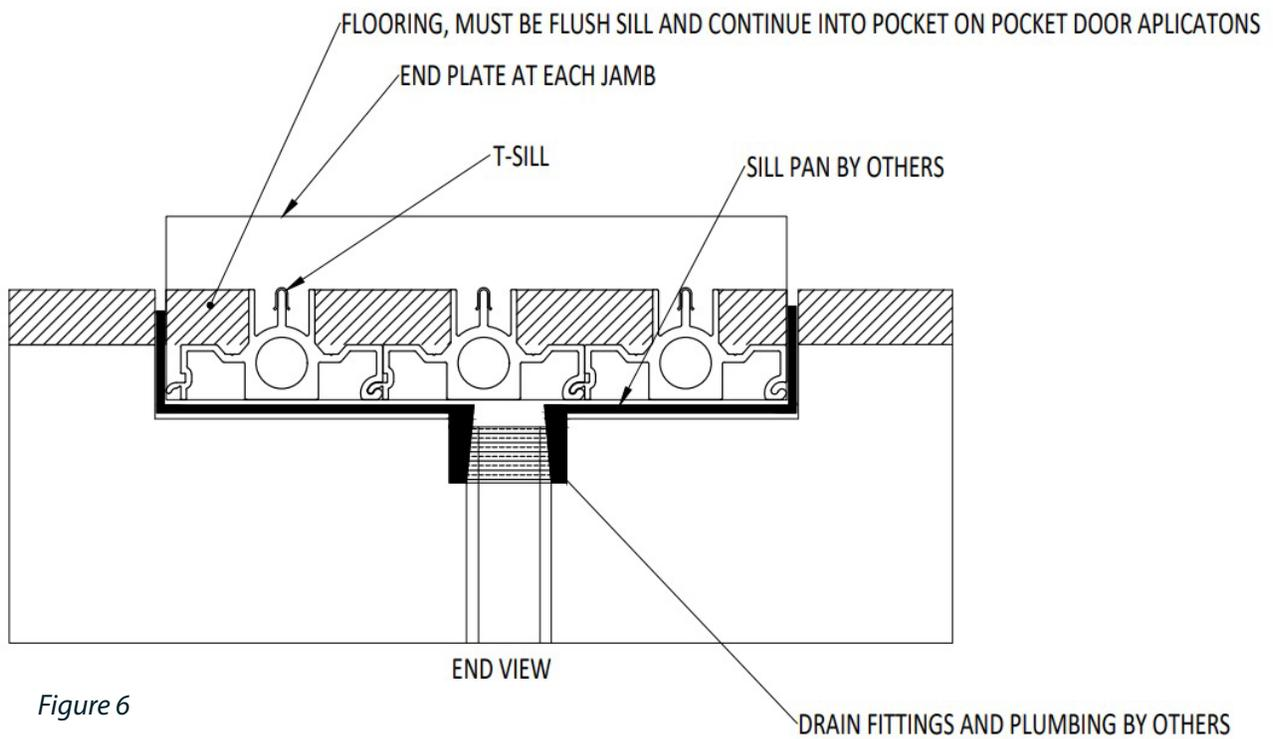
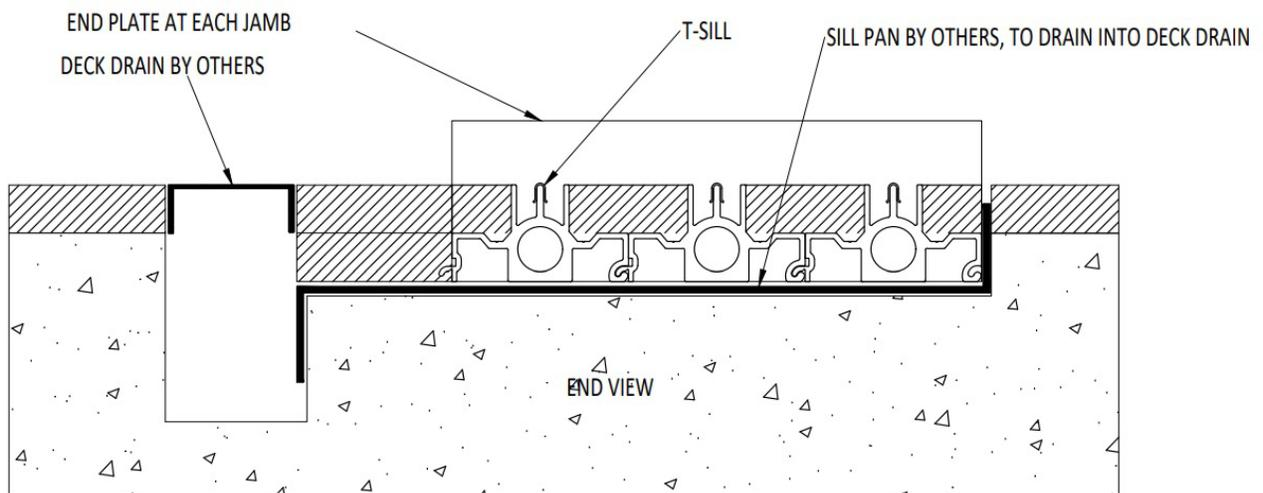

Figure 6
Figure 7
- Front Weep with pan and drain by others (See Figure 6).
- Front weep with deck drain and pan by others (See Figure 7).
- 8. Front Weep Sills** - Sills that have a weep slot located on the bottom surface 6" from each end and 6" from each stagger location will allow water to drain out the bottom of the sill directly into a water management system supplied by others, such as a sill pan or equivalent. (See Figure 6). If a slot drain or similar system is used, the door sill pan can be drained into the slot drain. Ensure that the slot drain bottom is adequately below the sill pan to ensure water only flow away from the sill. (See Figure 7). Skip to step 10.